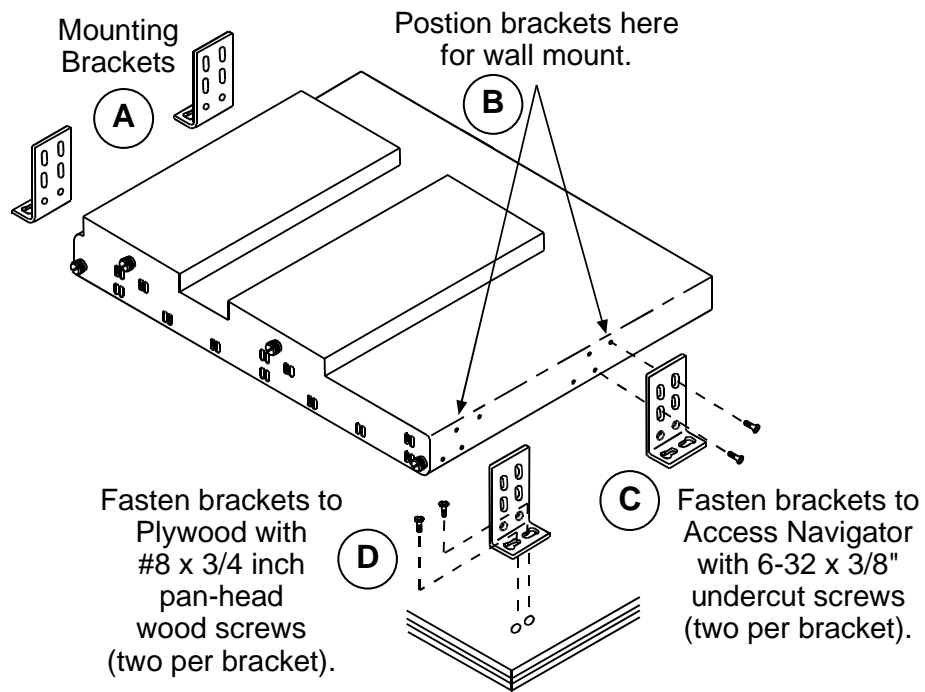

Figure 5-13. Wall Mount Bracket Installation
1. Open bags containing the universal mounting kits and select the following items (see A in Figure 5-13 on page 5-21):
2. Position mounting brackets for wall mounting (see B in Figure 5-13).
3. Remove two mounting screws (6-32 × 3/8 inch, 82° undercut, Phillips) from Access Navigator where each bracket will be attached (see C in Figure 5-13).
4. Attach mounting brackets to each side of Access Navigator using the mounting screws removed in previous step (see C in Figure 5-13). Slide brackets down in screw slots to ensure maximum space beneath Access Navigator for ventilation.
2. Secure mounting brackets to plywood using eight #8 × 3/4 inch panhead screws (see D in Figure 5-13 on page 5-21).